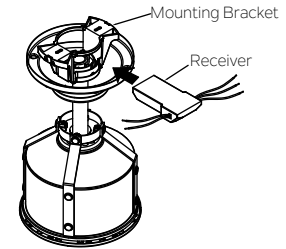

Fig. 12
Step 1. Insert the receiver into the mounting bracket, and keep flat in opposition of ceiling. (Fig. 12)